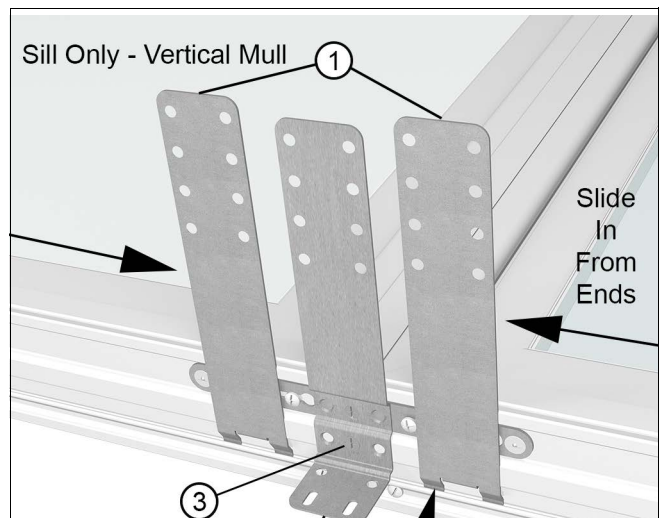

Figure 6 Sill bracket placement
6. For 1/2" MRF Assemblies: Install Sill brackets. Apply two "flat" sill structural brackets within 1 1/8" of either side of the mull. Apply one 90 degree bent structural bracket between the first two, centered on the mull. See Figure 6.